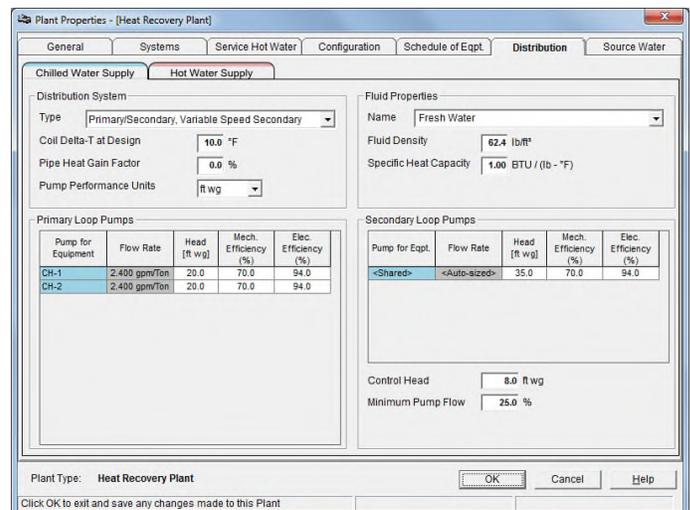
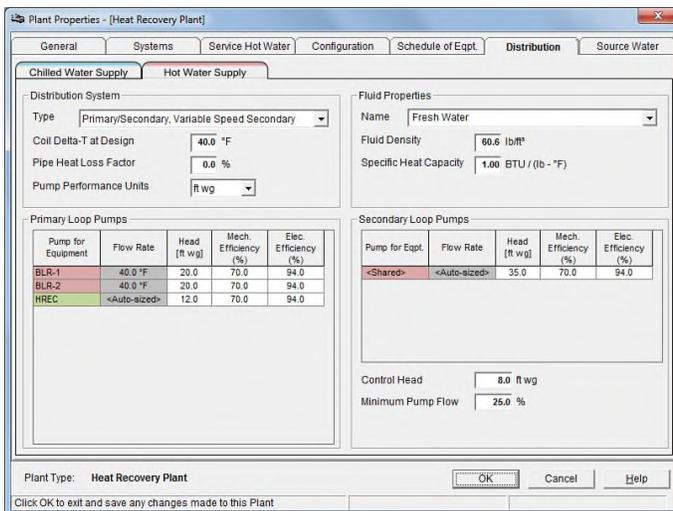

Figure 11.
Figure 12.
The Distribution Tab is used to define the performance of the chilled water and hot water distribution loops. The tab contains two sub-tabs: one for the chilled water supply loop, color coded blue, (Figure 11) and one for the hot water supply, color coded red (Figure 12).
In Figure 11 note that there are two rows in the Primary Loop Pumps section color coded blue and labeled as CH-1 and CH-2. These are the primary chilled water pumps for the two cooling-only chillers in our example.
- Inputs on the **Hot Water Supply** sub-tab (Figure 12) are similar to those for a conventional hot water plant. You select the distribution system type, specify fluid properties and pump performance.
In Figure 12 note that there are two rows in the Primary Loop Pumps section color coded red and labeled as BLR-1 and BLR-2. These are the primary hot water pumps for the two boilers in our example. The third line item color coded in green and labeled as “HREC” is the heat recovery booster pump. In Figure 1 this is the pump in the heat recovery leg of the system (middle left in Figure 1) that circulates water from the hot water return pipe to the heat exchanger.